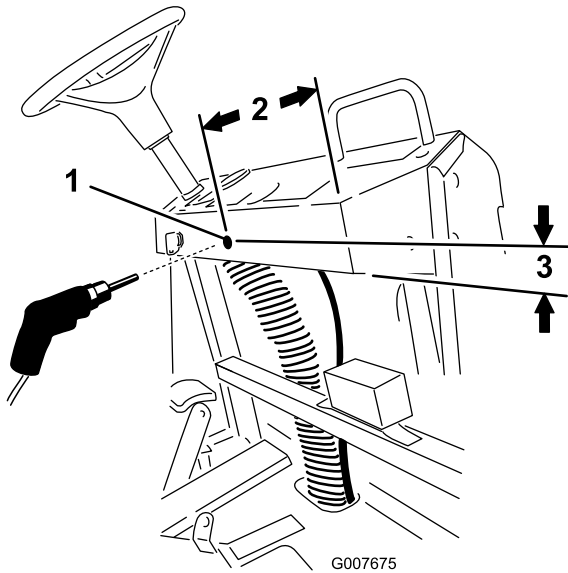

Figure 2
- A. Make a mark inward from the right side of the dashboard 25 cm (10 inches) and then 4 cm (1-1/2 inches) from the bottom of the dashboard (Figure 2).